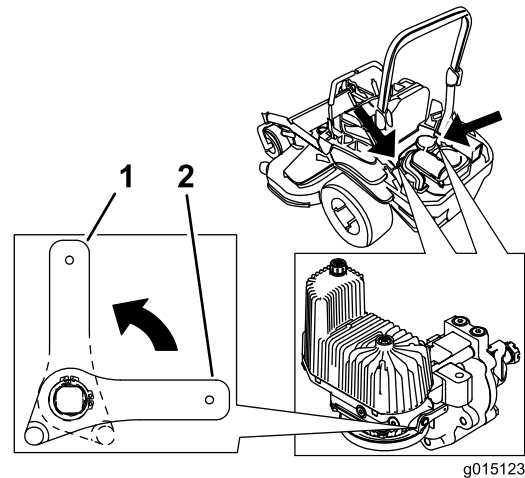

Figure 37
3. Rotate the release-valve levers vertically to push the machine (Figure 37).
5. Rotate the release valve levers horizontally to run the machine (Figure 37).